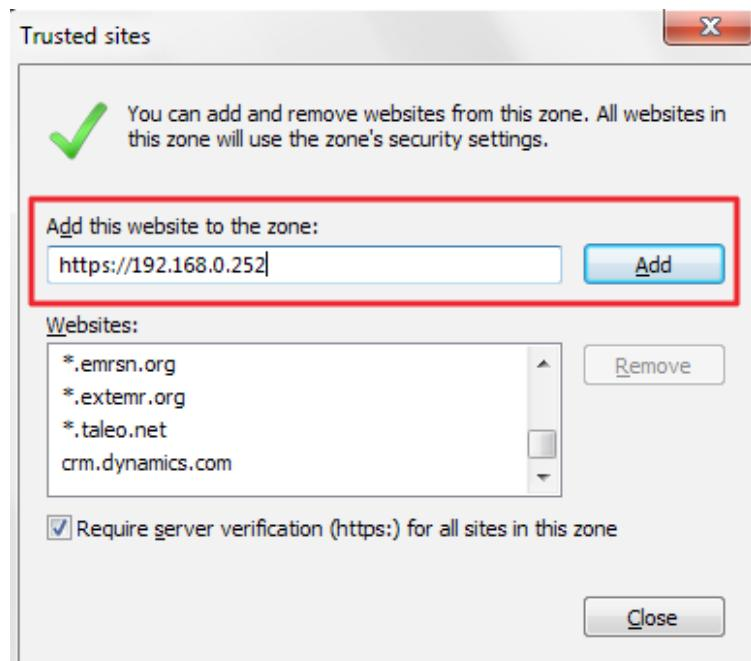

Figure 4-34 Adding the IP Address of the MSC card
- » On clicking Sites, the screen shown in Figure 4-34 pops up, enter the IP address of the MSC card and click on Add.